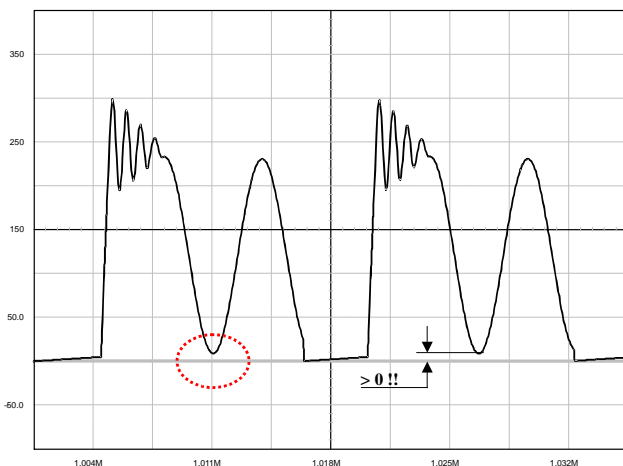

Figure 38. The Drain-Source Wave Shall Always be Positive
1. The lateral MOSFET body-diode shall never be forward biased, either during start-up (because of a large leakage inductance) or in normal operation as shown by Figure 38. This condition sets the
Figure 40a: the simple capacitor limits the voltage according to The lateral MOSFET body-diode shall never be forward biased, either during start-up (because of a large leakage inductance) or in normal operation as shown by Figure 38. This condition sets the maximum voltage that can be reflected during  $t_{\text{off}}$ . As a result, the Flyback voltage which is reflected on the drain at the switch opening cannot be larger than the input voltage. When selecting components, you thus must adopt a turn ratio which adheres to the following equation: Equation 3. This option is only valid for low power applications, e.g. below 5 W, otherwise chances exist to destroy the MOSFET. After evaluating the leakage inductance, you can compute C with Equation 4. Typical values are between 100 pF and up to 470 pF. Large capacitors increase capacitive losses...